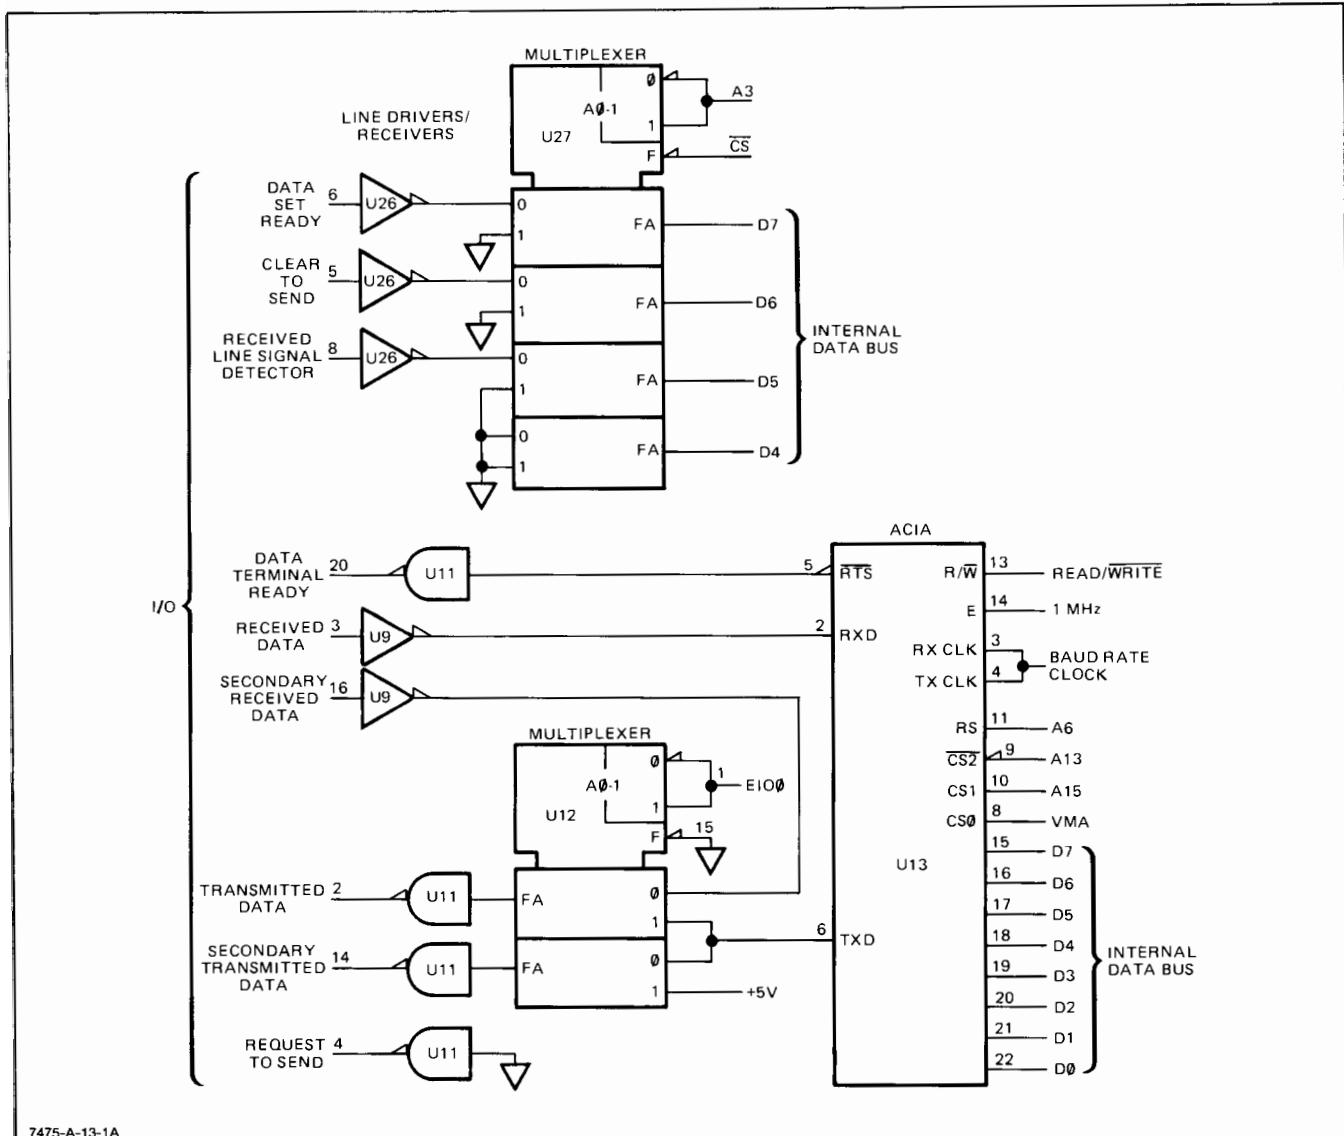

Figure 6-2. RS-232-C/CCITT V.24 Interface Circuits
Communication Information Adapter (ACIA) U13, and 2 multiplexers U12 and U27. See Figure 6-2 and 6-24.
**6-9. DATA INPUT AND OUTPUT CIRCUITS.** Because signals within the 7475A are positive-true TTL levels, inverting line drivers and receivers, U9, U11, and U26, are used to convert the logic and voltage between the levels required by the interface system (shown in Table 6-1) and the internal levels. Figure 6-2 is a diagram of the I/O circuits and the ACIA.
**6-12. MULTIPLEXER U27.** When the address line (EIO3) is low and chip select (CS) from U6, gate array B, is low, three control lines are passed onto the data bus. The functions of these control lines are as follows: